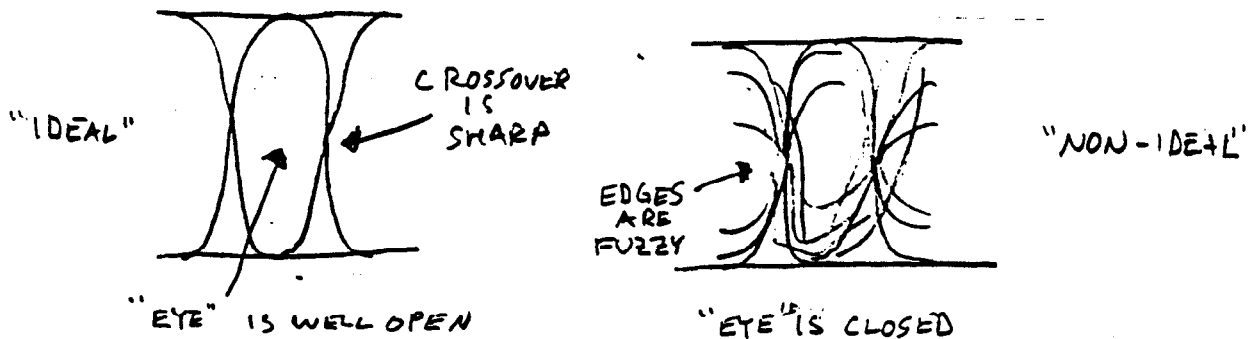

Fig. 15 - Eye Pattern
- ( ) Place switch S1 in the "JOINT" (UP) position.
- ( ) Place switch S4 in the "ON" (UP) position.
- ( ) Twiddle your USB/LSB selector, passband tuning, BFO, and any other controls your receiver has for the best "eye pattern" on your oscilloscope. Things to look for include maximum "eye" opening and minimum jitter in the data edges. See Fig. 15 (on the next page) for "typical" eye patterns.